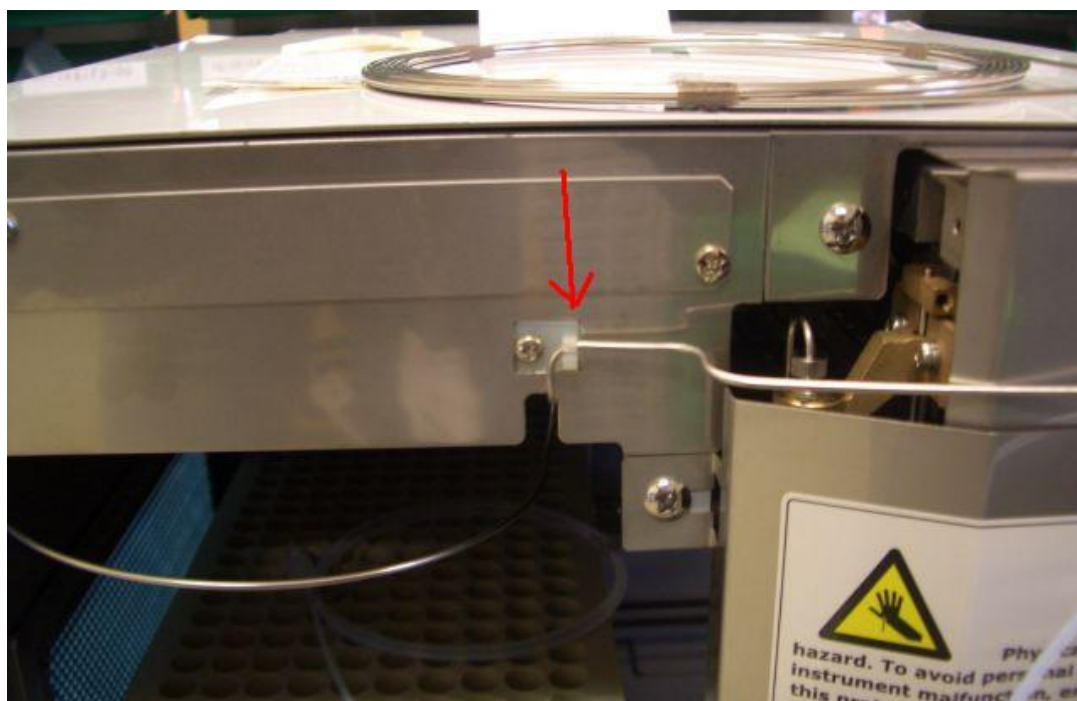

Figure 14: Tubing Retaining Clip
8. Route the plumbing through the clip (*Fig. 14*) at the front of the Auto sampler.